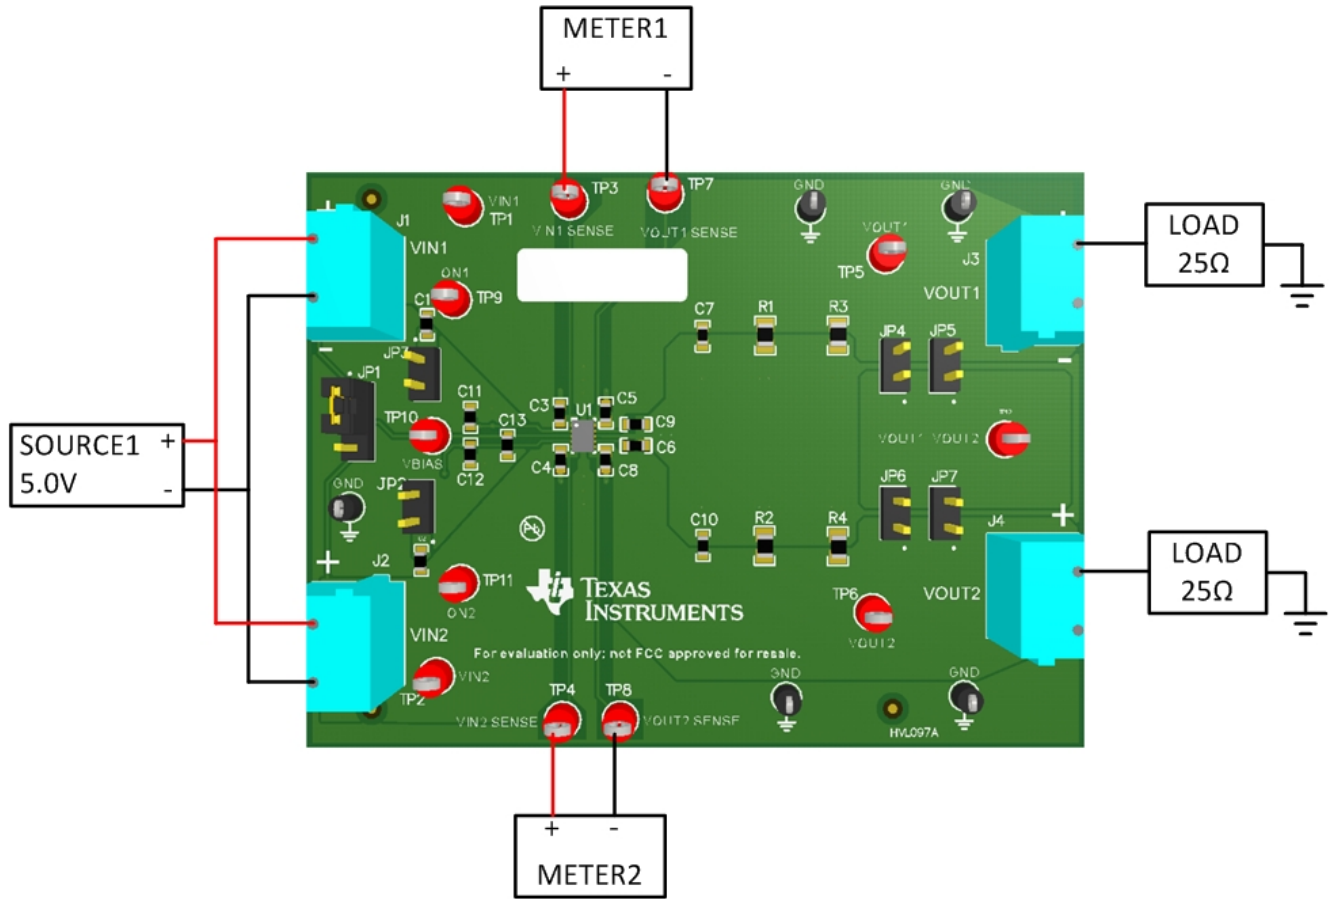

Figure 4. TPS22968Q1EVM / TPS22968NQ1EVM Recommended R_{ON} Test Set Up
Figure 4 shows a typical setup for the R_{ON} test of the EVM. VBIAS voltage must be present for the device to function, keep this voltage level constant between 2.5 V – 5.25 V. Adding a shunt across JP1 will connect the VBIAS pin to VIN1 (pin1 to pin2) or VIN2 (pin2 to pin3). When testing with input voltages below 2.5 V JP2 shunt must be removed and VBIAS tied to another voltage source.
1. Setup the EVM per Figure 4.